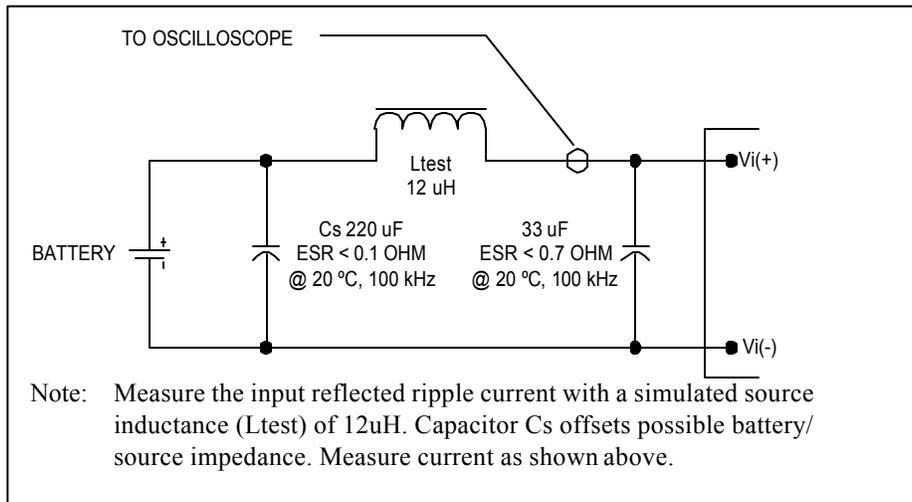

Figure 1. Input Reflected Ripple Current Measurement Setup.
4. See Figure 1 for Input Reflected Ripple Current Test Setup.